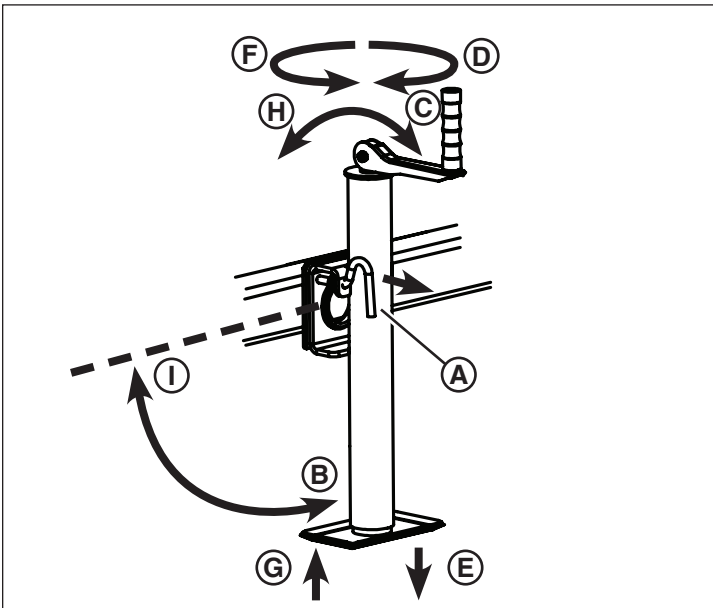

Figure 6
1. Pull the lock lever (A, Figure 6), rotate the tongue jack into the operating position (B), and release the lock lever. Make sure the lock lever engages the locking hole and is secure.
2. Unfold the crank handle (C, Figure 6).
- Turn the jack handle clockwise (D, Figure 6) to lower the jack foot (E) and raise the front of the light tower trailer.
- Turn the jack handle counter-clockwise (F, Figure 6) to raise the jack foot (G) and lower the front of the light tower trailer.
4. Fold the crank handle (H, Figure 6).
5. Pull the lock lever (A, Figure 6), rotate the tongue jack into the transport position (I), and release the lock lever. Make sure the lock lever engages the locking hole and is secure.